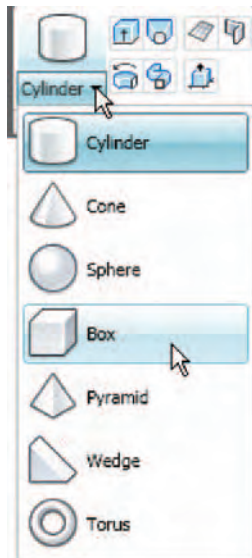

Fig. 12.25 Selecting the **Box** tool from the pop-up in the **Home/3D Modeling** panel
2. Click the **Box** tool icon in the **Home/3D Modeling** panel (Fig. 12.25).